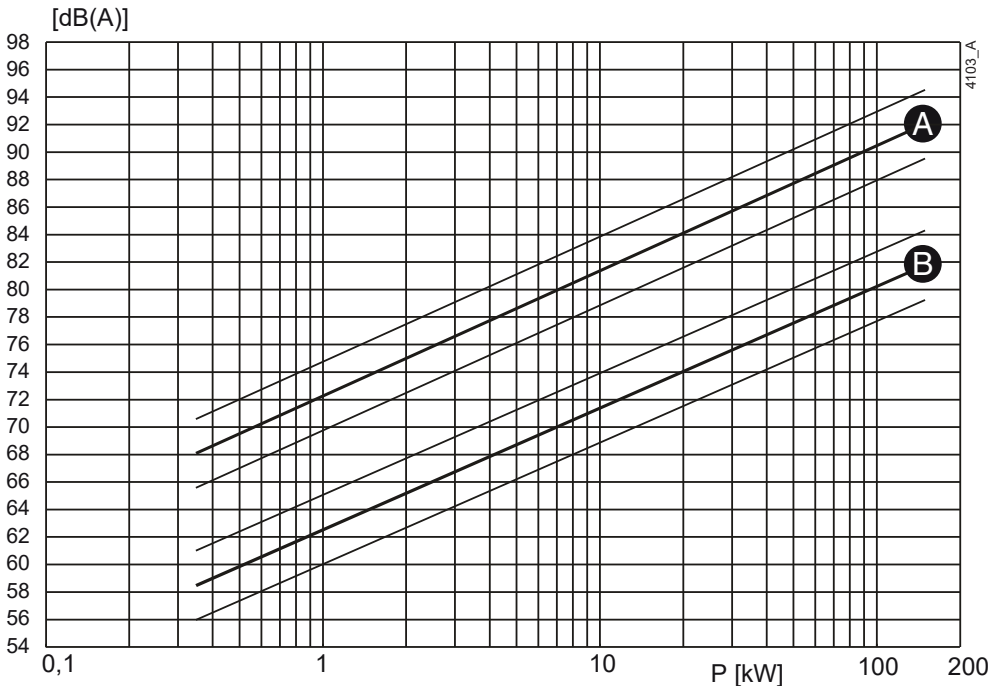
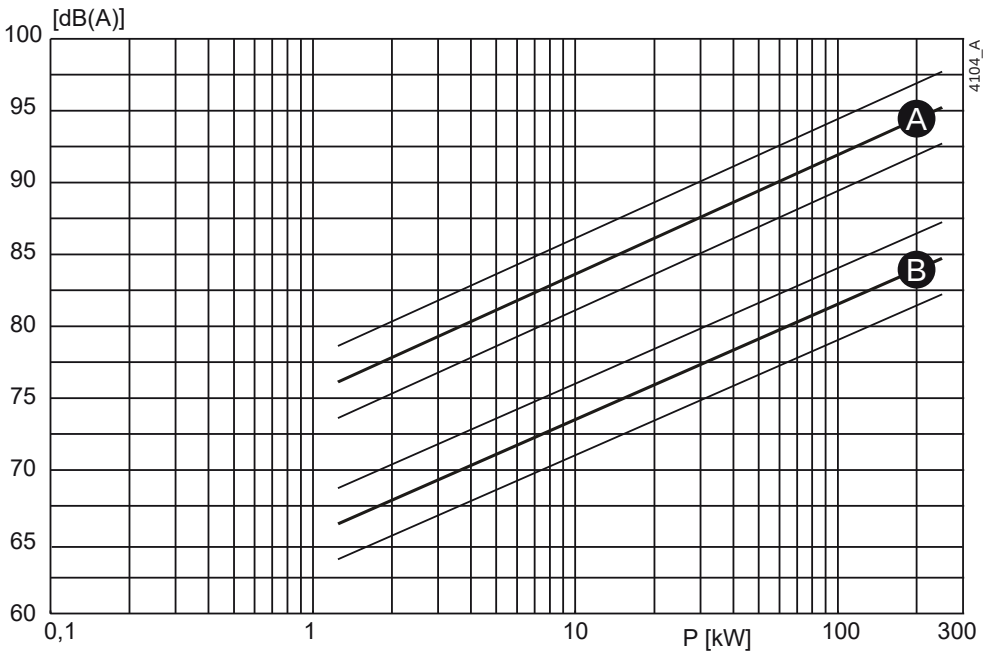

Figure 20: Noise level as function of pump power [kW] at 1450 min^{-1}
Figure 21: Noise level as function of pump power [kW] at 2900 min^{-1}
- 1 Determine the noise level (L_1) of the pump, see figure 20 or figure 21.